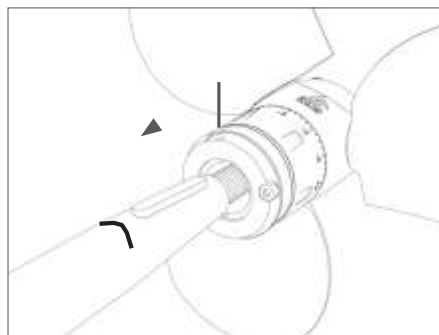

FIG. 13 Engaging the propeller on the shaft with the key
- Engage the complete propeller set onto the propeller shaft (**Fig. 13**) and hold it in place before fixing.